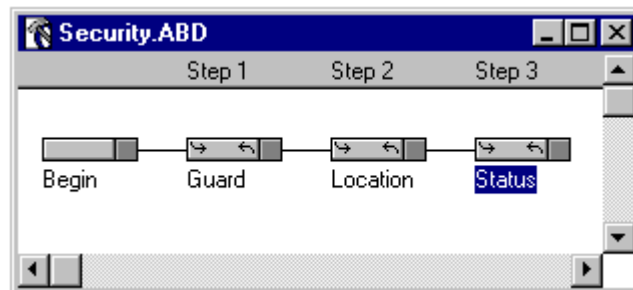

Figure 3-15 Step 3 Input Handler Named
14. Double-click **Untitled** under Step 3 to open the name box; type **Status** and press <Enter> (Figure 3-15).